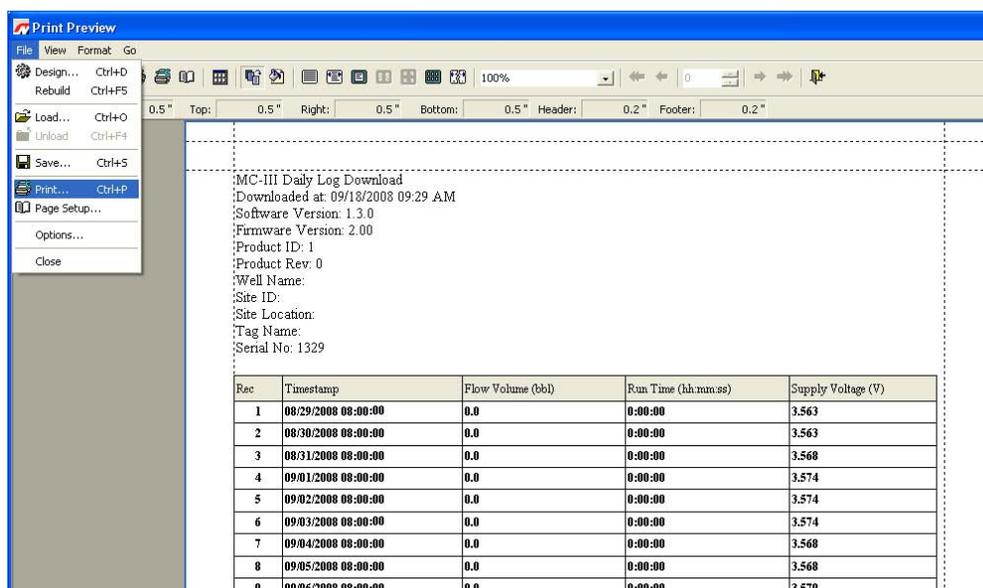
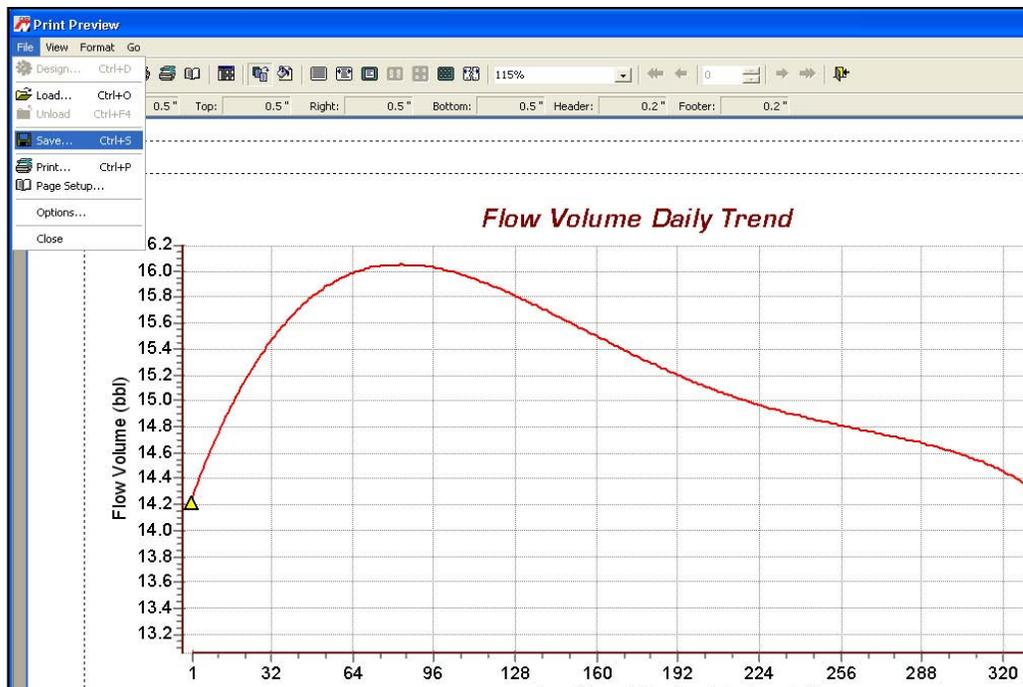
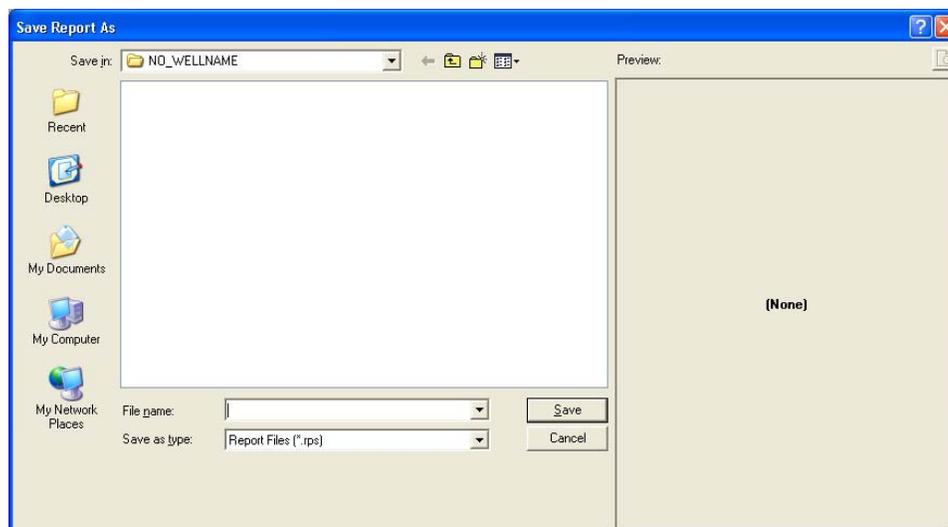

Figure 5.7—Print preview, tabular view
Figure 5.8—Print preview, trend view
Figure 5.9—Save Report As screen
A flow log can be printed and/or saved as a table (Figure 5.7) or a trend chart (Figure 5.8, page 84).
To print the report, select File>Print from the task bar (Figure 5.7).
1. Select File>Save from the task bar (Figure 5.8). A “Save Report As” window will open (Figure 5.9).